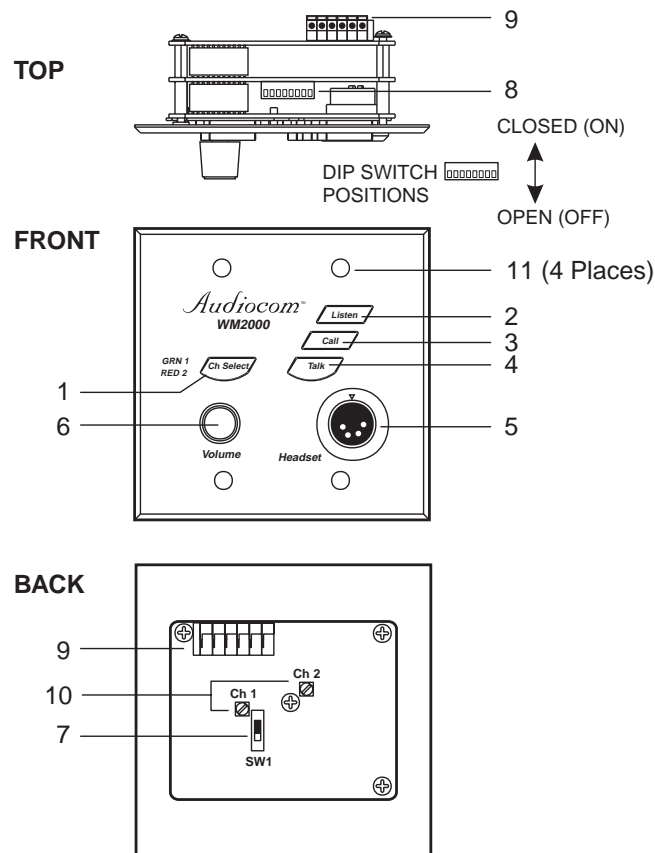

Figure 1. Reference view, WM2000 shown (See numbered features list)
Before making connections, read the configuration switch notes that follow and make sure that all switches are properly set for your intended usage. Table 1 lists the switch descriptions and factory default settings. Figure 1 shows the locations of the switches.
4. Using a small flat-bladed screwdriver, adjust the channel 1 sidetone trimmer (Figure 1) to minimize your voice level in the headphones.
4. While talking into the microphone, use a small flat-bladed screwdriver to adjust the channel 1 sidetone trimmer (Figure 1) so that you can hear your own voice in the headphones at an acceptable level.